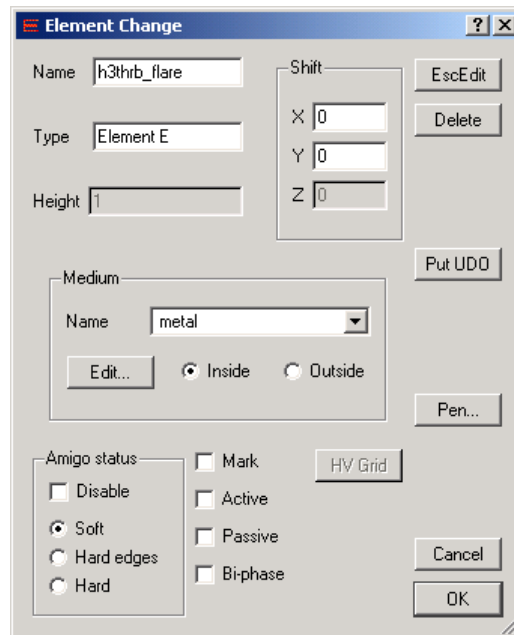

Fig.E 2.2.2-5 *Element Change* dialogue window.
- *Edit Element*. This command serves to change the position and parameters of the *elements*. When this command is invoked, we should approach the *element* to be changed with the cursor and press the left mouse button. We can move the *element* and set its new position by pressing the left button once more. We can also press the right button to get into the *Element Change* dialogue (corresponding to this particular *element*) in which its parameters can be changed. The *Element Change* dialogue for a simple element is shown in Fig.E 2.2.2-5; the dialogues for *ports* are described in Section E 2.4.1, and for *wires* and *wire grids* in Section E 2.2.7. Most of the parameters are self explaining. Let us only comment on some aspects of them: